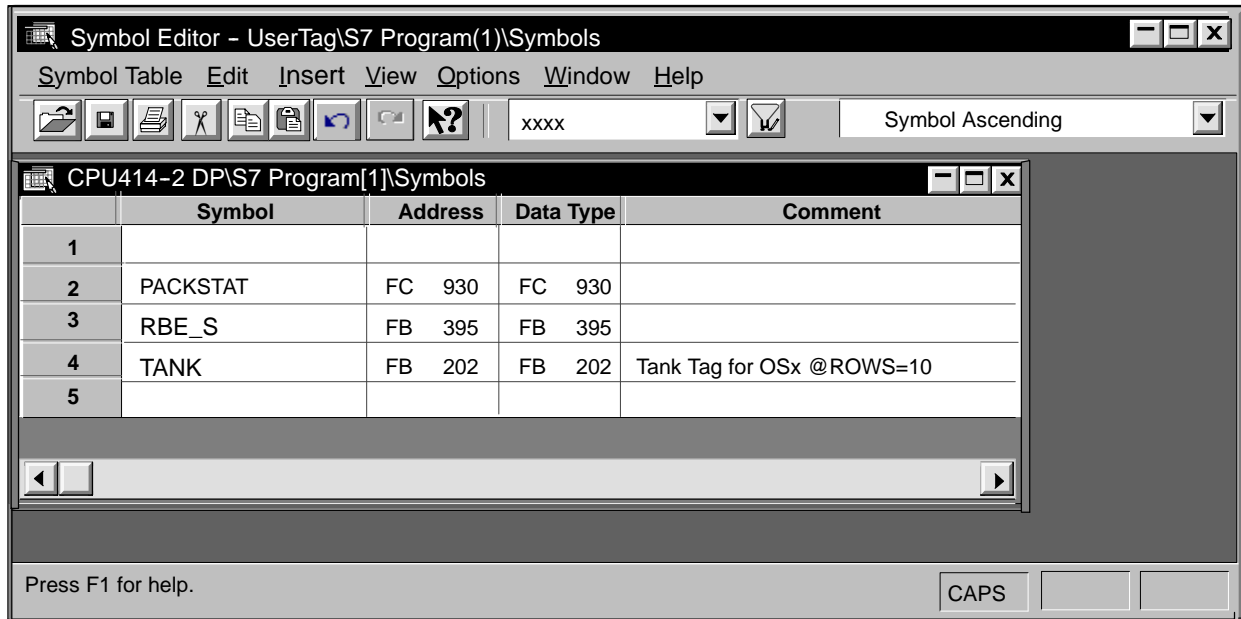

Figure 4-1 Adding a User-defined Tag to the Symbol Table
2. Enter the name that you gave the tag type (TANK, in this example) in the first blank field of the Symbol column (Figure 4-1).
NOTE: When you move a function block into the Blocks folder of a project or library, the block appears in the Symbol Table. For the TANK example, RBE_S and PACKSTAT have been called in the SCL code and placed in the Blocks folder of the User Tag Library. Therefore, they appear in the Symbol Table in Figure 4-1.